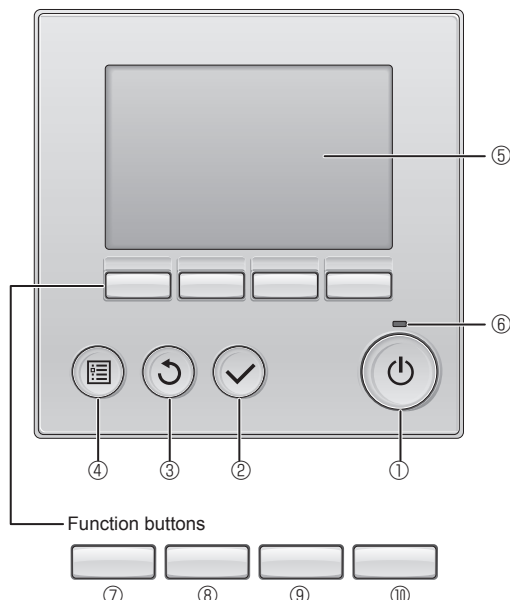

Fig. 6-1
6.2.1. Using wired remote controller (Fig. 6-1)
- ① **[ON/OFF] button**